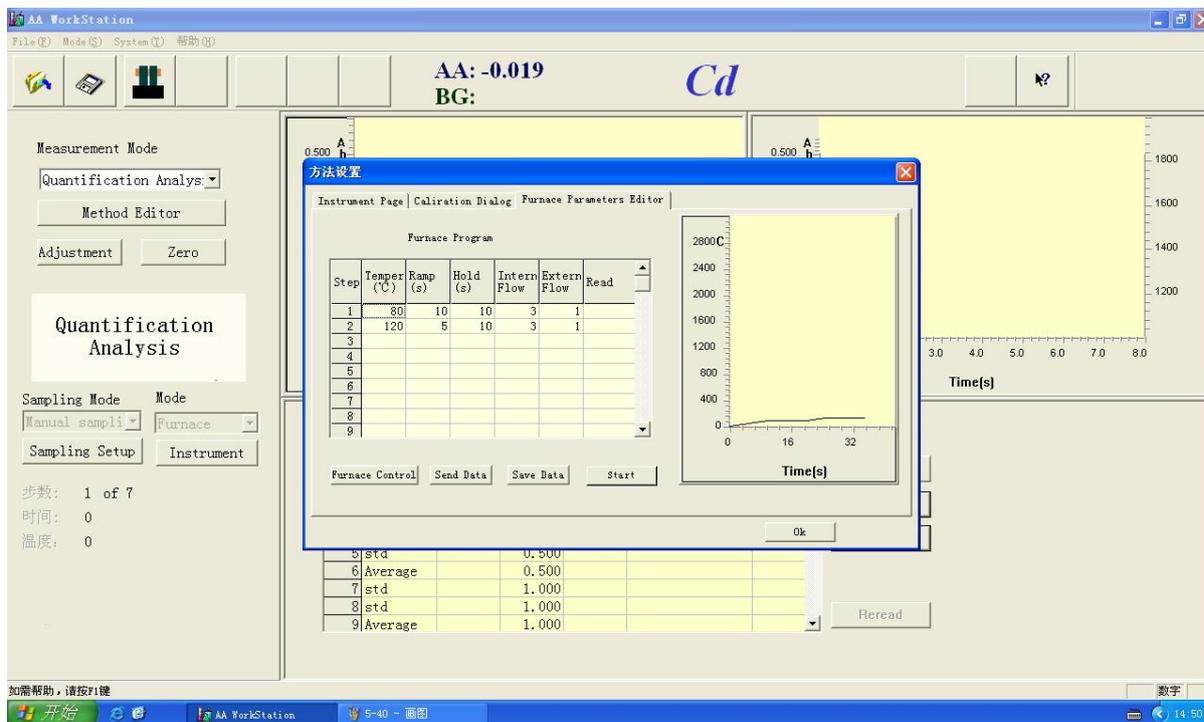

Figure 5-41
9. Input the No.2 program, see Figure 5-41